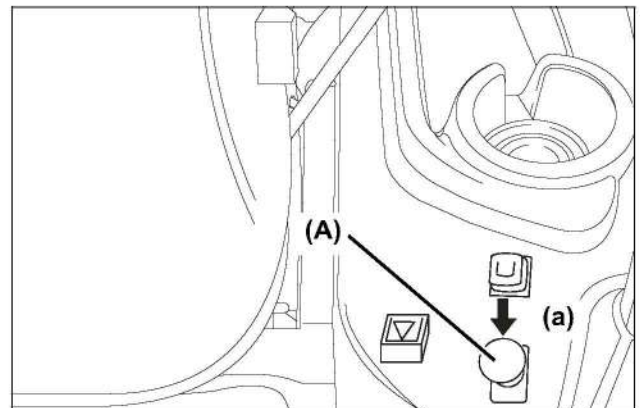

Fig 7-19
- (A) Range shift lever
4. Push down Power Take Off (PTO) switch (Fig 7-19, A) to OFF position.